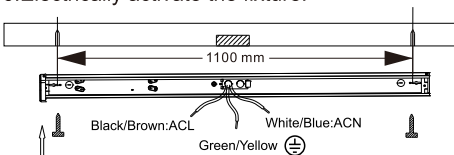

Figure 10
4. Connecting the wires, fix the fixture on the ceiling with screw. (Figure 10)